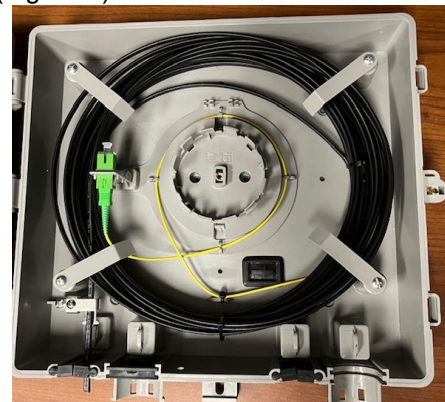

Figure 3
4. Mark the cable just above the strength member clamp. Wind the cable clockwise under the slack storage fingers. Plug the SC Connector at the end of the cable into the provided SC Adapter (Figure 3).